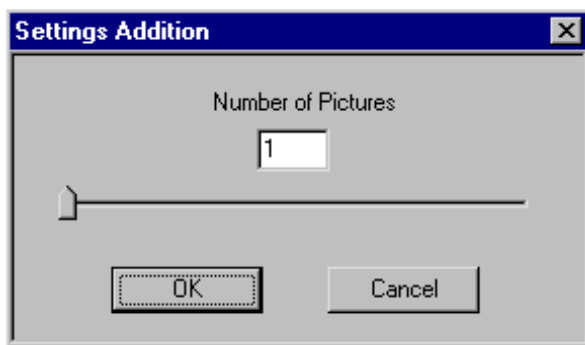

Figure 27: *Number of Images*
- The desired number of images can be selected under *Options / Addition Settings* (see *Figure 27*).